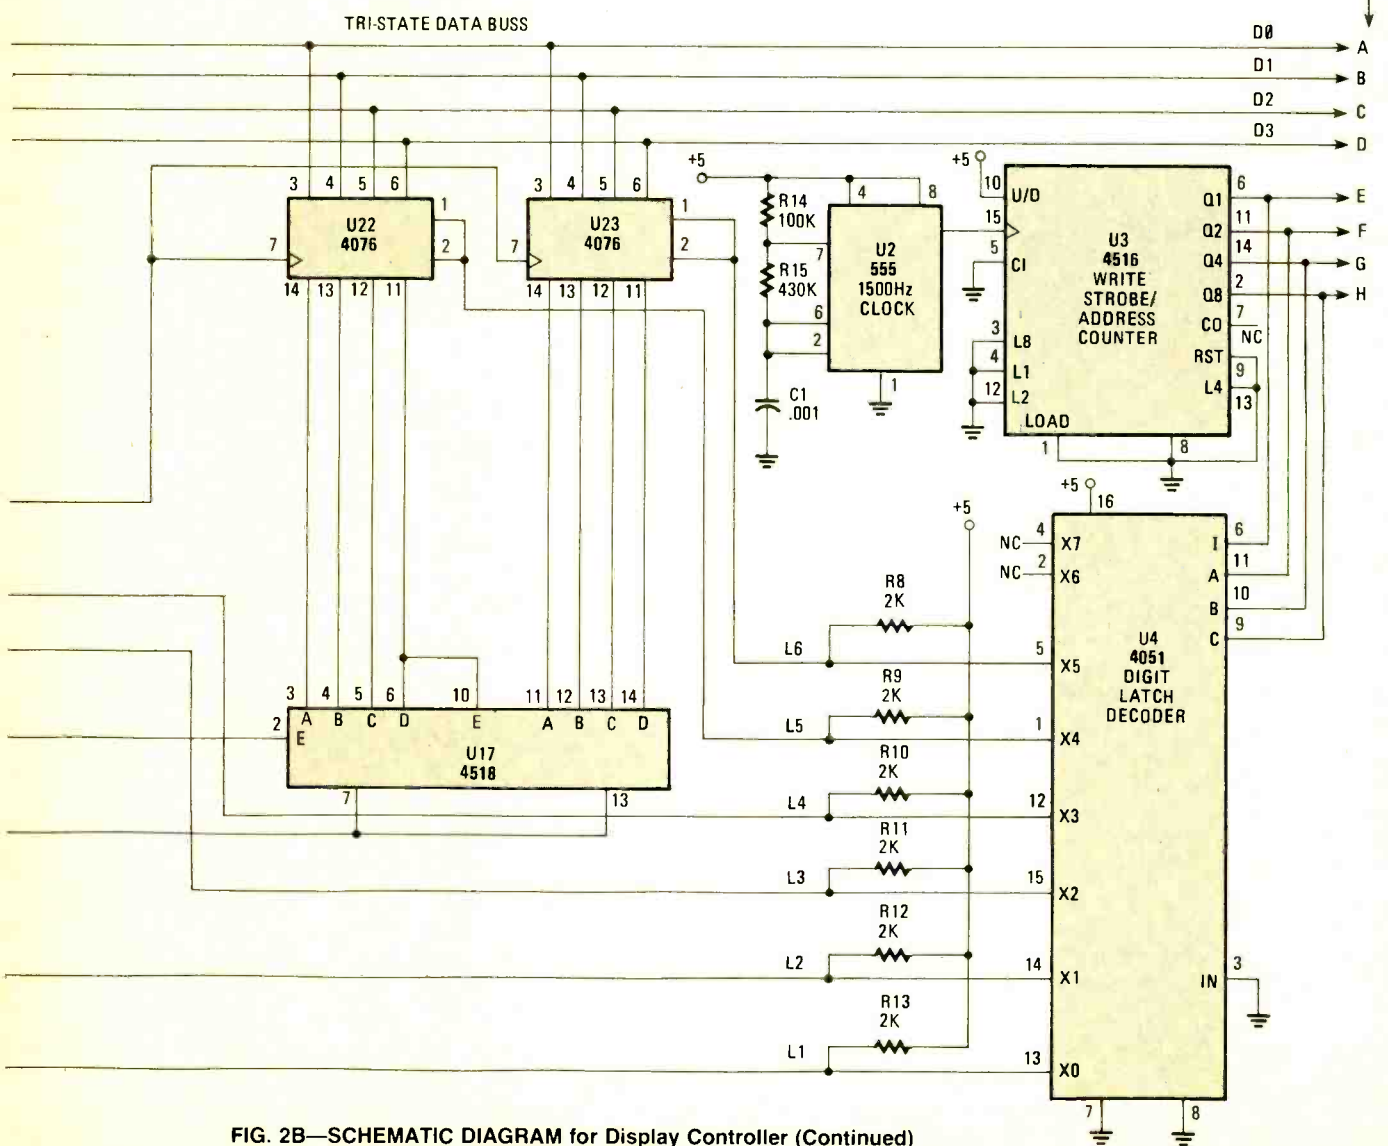
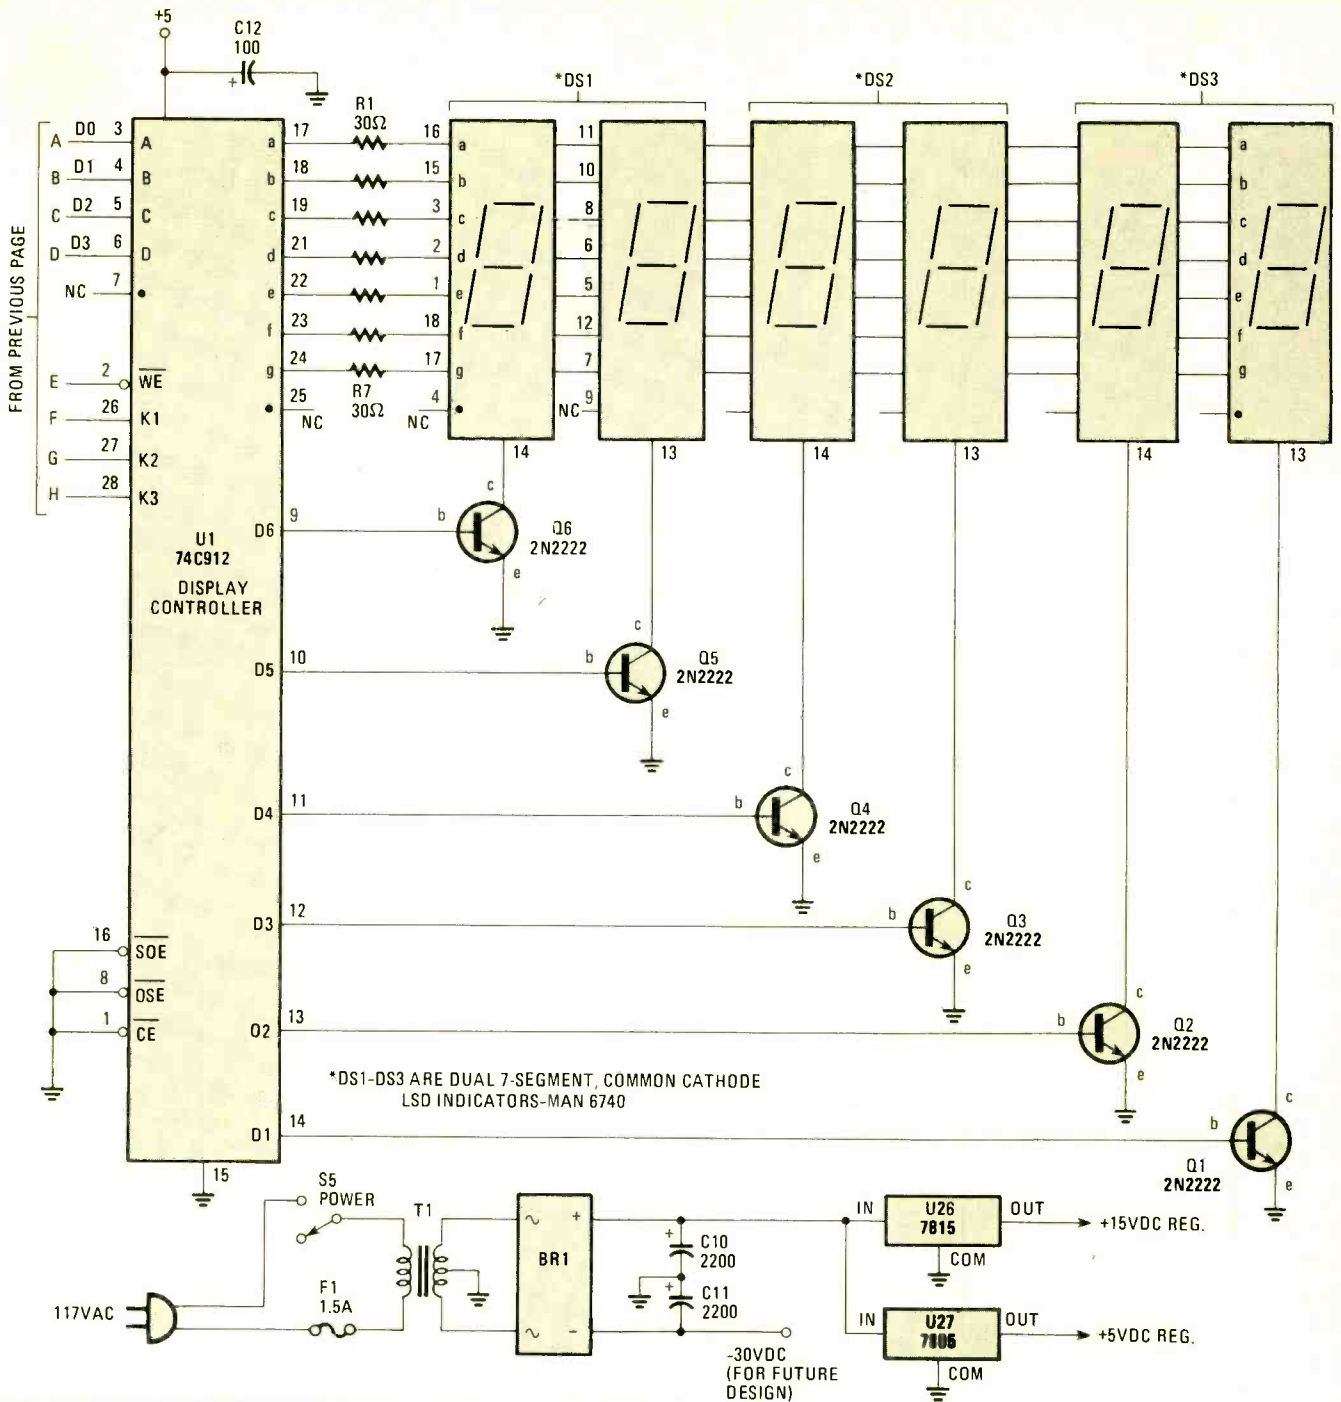

FIG. 2B—SCHEMATIC DIAGRAM for Display Controller (Continued)
FIG. 2C—SCHEMATIC DIAGRAM for Display Controller (Concluded)
Turning now to the actual schematic diagram (Fig. 2C), let's look first at the heart of the circuit, the 74C912 display controller, U1. That CMOS device is intended for +5V operation and all inputs are TTL-compatible. The controller sends numbers to the display by circulating them out of its internal registers and multiplexing them through a 4-bit to 7-segment decoder. To drive the display, it has seven outputs for LED segments *a-g*. Each segment output is wired to all seven corresponding LED segments through current-limiting resistors, R1-R7. Since up to 100 mA is available from each segment output, it may be necessary to increase resistance to protect other common-cathode displays than those specified.
As the controller, U1, segment outputs change, the digit transistor drive outputs D1-D6 (Fig. 2C) go high sequentially, turning on Q1-Q6 in turn, thus grounding each common cathode of the displays and lighting a digit. For example, to display the number 000,031 the controller first raises segment outputs *b* and *c*, then briefly turns on Q1, to flash the "1." After displaying the "1" it raises segments *a*, *b*, *c*, *d*, and *g*, then turns on Q2 to flash the "3." To display the zeroes, all segments except *g* are raised, then Q3-Q6 are "strobed." That sequence occurs at about 50 Hz, so the eye sees a continuous numerical display without flicker.
Pin 8 of U1 (Fig. 2C), *oscillator scan enable* (-OSE), must be low (tied to ground) to enable the display to constantly refresh itself. Pin 16, *segment output enable* (-SOE), must also be low to enable the display. If -SOE goes high, the segment outputs go into a tri-state (high-impedance) condition, which will save power. The 74C912 data sheet suggests driving -SOE with a variable pulse-width oscillator, to obtain a brightness control. Pin 1, *chip enable*, must be low, or no data can be written into the U1 controller's registers.
Looking at the addressing circuitry in more detail as show in Fig. 2B, U2 is a CMOS 555-type timer, U2 set up to oscillate at about 1500 Hz. It clocks U3, a 4516 synchronous binary counter. A *synchronous* counter is required so that all four outputs change state simultaneously (rather than in "ripple" fashion). Tying pin 10 high programs that counter, U3, to increment, rather than decrement. Assuming that the binary counter output on Q1-Q4 is 0000, the *-WE* pin (U1, pin 2 of Fig. 2C), is low, so that data can be written into the digit register corresponding to address 000, which is Digit 1.
When U3 receives the next clock pulse from U2, (Fig. 2B), the counter state increments to 0001. That causes the *-WE* pin to go from a low to high state, latching whatever data is present on the A-D inputs into the internal register for Digit 1. Then the counter increments to 0010, preparing Digit 2. Again, when the LSB goes to 1, at count 0011, data is latched into the Digit 2 register, and so on. After the counter reaches 1011, which writes data to Digit 6, the controller ignores the unneeded sequence numbers 1100-1111, which means that you don't have to bother resetting the counter.
U4 Digit latch Decoder (see Fig. 2B) arranges for the desired data to be placed onto the data bus at the right time. In this project the data is from the frequency counter, but it could as easily be from any other set of latches. The three counter address lines also drive the decoder inputs, while the LSB line strobes the decoder Inhibit (I) input (U4, pin 6), to synchronize the decoder to the counter. When I is low, the decoder transfers the low on its input, pin 3, to one of its
Switch S1 selects the 1- or 10-Hz time base applied to one section of U13 (see Fig. 2B), which is configured as a "T" flip-flop. The T flip-flop has the handy property of dividing its input exactly by two, so its output is a perfect squarewave at .5 or 5 Hz. Those frequencies are chosen for gating the frequency counter because they are high (or low) for exactly one or one-tenth second.